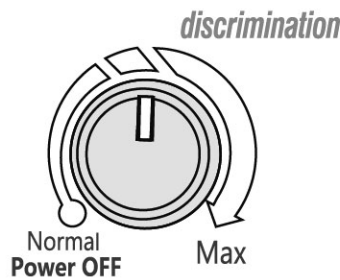

Figure.15
- Set the DISCRIMINATION to about "12:00" position (Figure.15). Adjust the balance to let the detector sound a hum tone, and the show is "0"